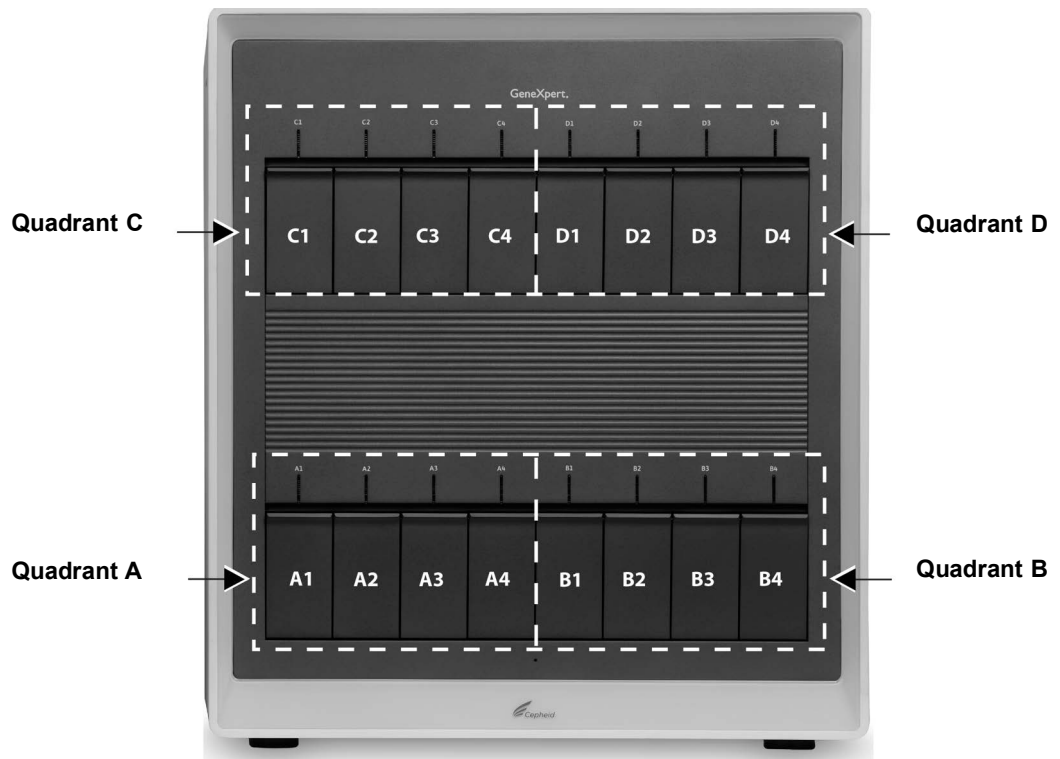

Figure 2-42. Quadrant Assigned Letters (GX-XVI Shown)
8. Click **OK** to close the Assign Instrument Letter dialog box (see Figure 2-42). The Module Name is updated with the new Instrument Letters.